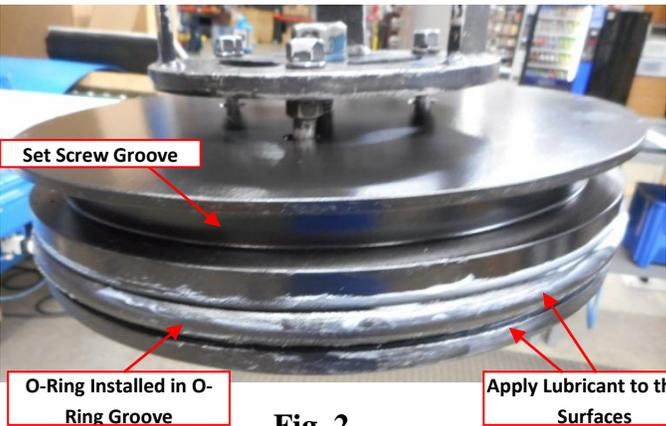

Fig. 2
Step 3. Verify Push Plug Completion Plug and O-ring Groove Surface has sufficient NSF-61 approved Lubricant. (See Figure 2)